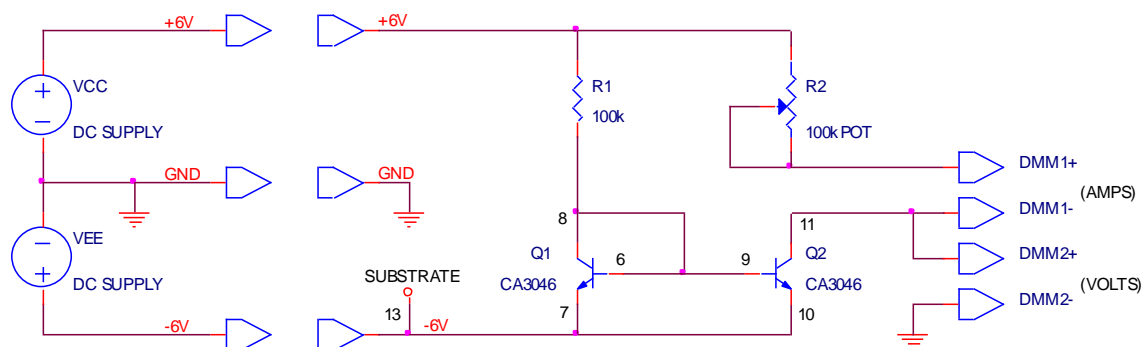

Figure E3.1
**Set-Up** Using the solderless breadboard, construct the circuit shown in Fig. E3.1 using the following components:
Configure a dual DC power supply to implement the  $V_{CC} = +6.0$  V and  $V_{EE} = -6.0$  V DC power supply rails, as shown in Fig. E3.1. Use a pair of squeeze-hook test leads to connect the output of the power supply to your breadboard. Turn the DC power supply ON and initially adjust its outputs to  $\pm 6.0$  V, measured relative to the center ground terminal. This center ground terminal is the system ground.